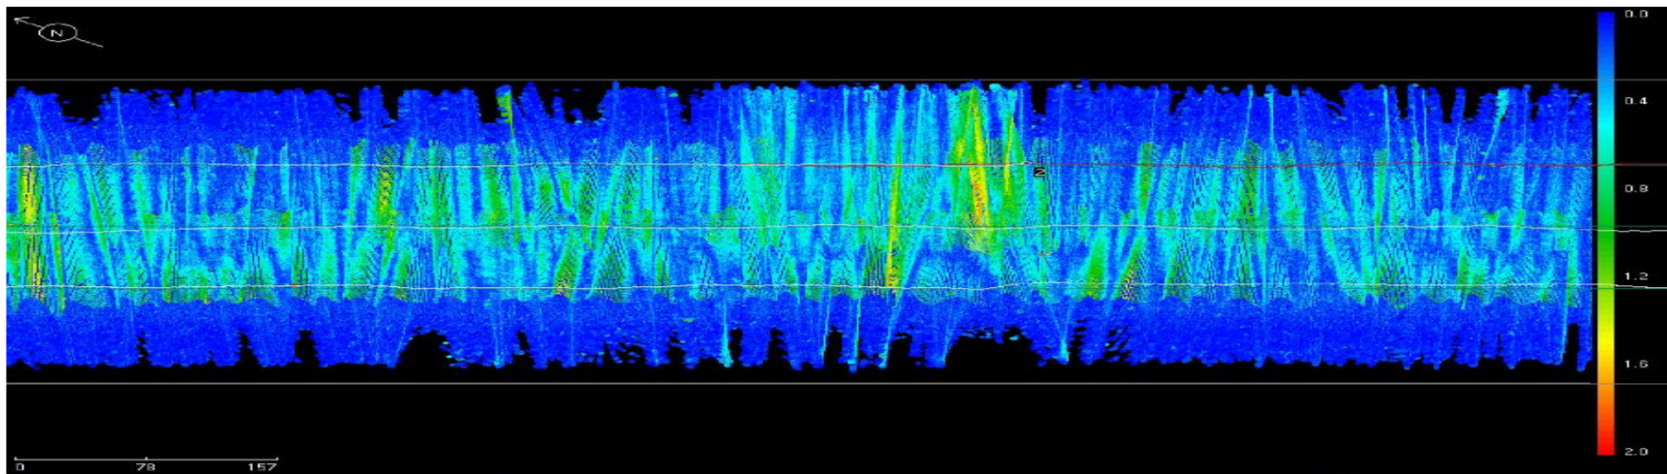
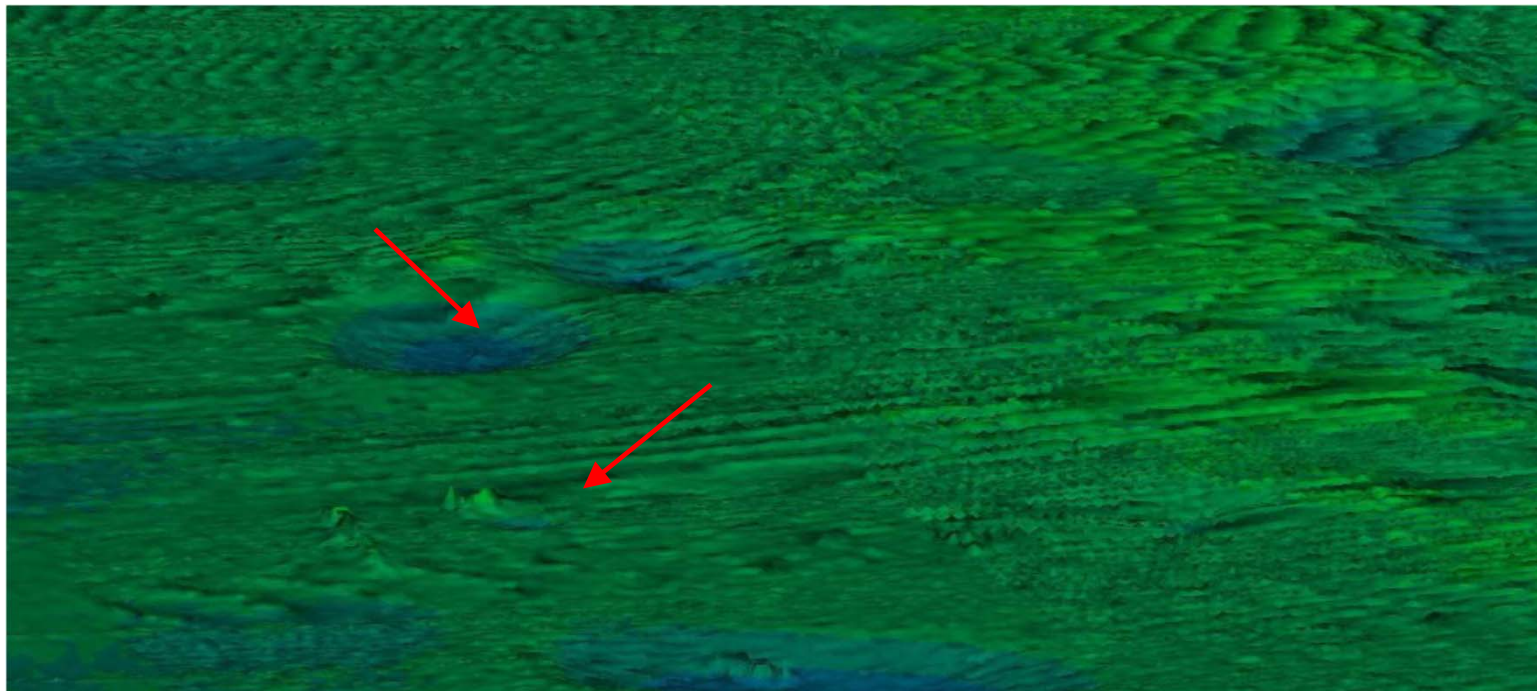

Figure 2. Multibeam Survey In Choppy Seas
Figure 3. Effect of Head Seas on Bottom Irregularity
Figure 2 illustrates what happens to a multibeam survey performed with a state-of-the-art multibeam system in choppy seas
- Figure 3, like Figure 2, shows how steep, head-on seas produce an irregular bottom that resembles the sea surface.